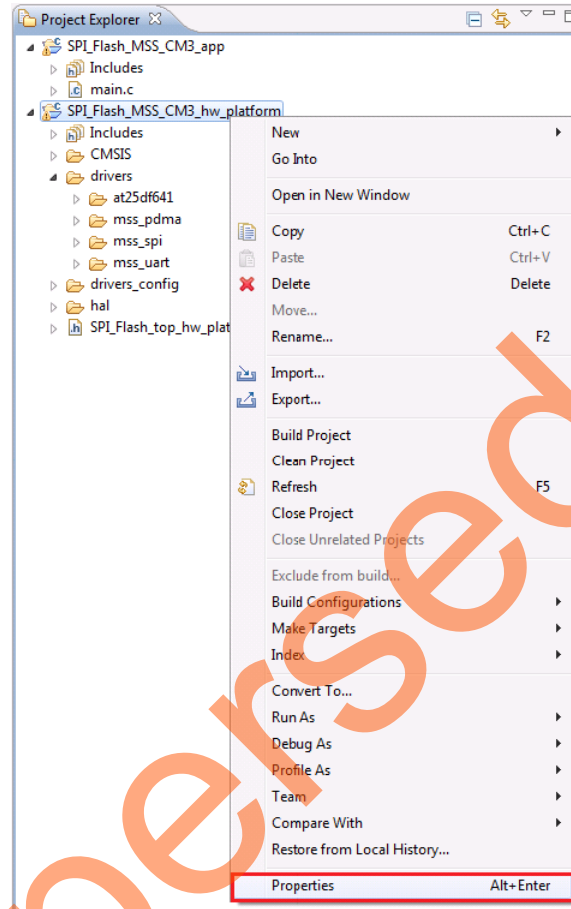

Figure 24 • Project Explorer window - Properties
6. Right-click the **SPI_Flash_MSS_CM3_hw_platform** in Project Explorer window of SoftConsole project and select **Properties** as shown in Figure 24.